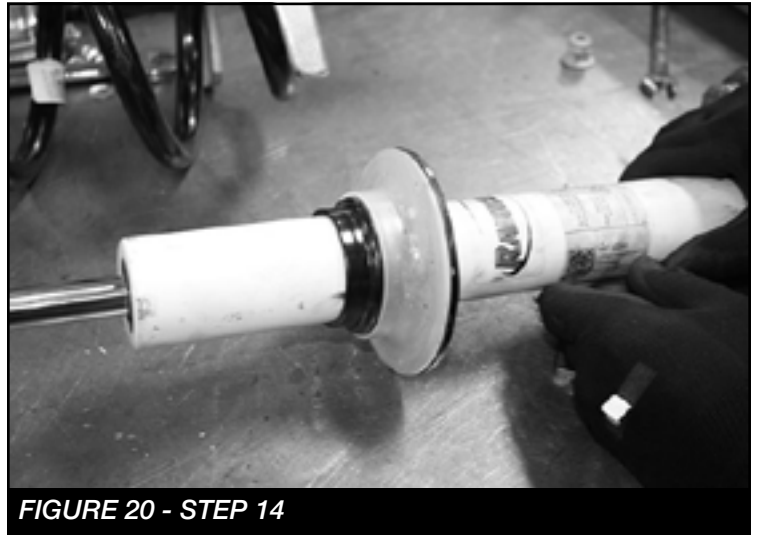

FIGURE 20 - STEP 14
14. Reinstall the lower spring perch. **SEE FIGURE 20**